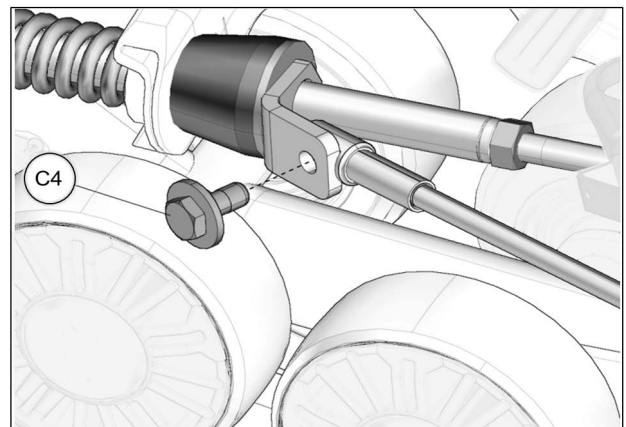

Fig. 32
22. Reverse steering wheel a little to be able to bolt support plate and cable together. Tighten provided bolt (C4) to 35 Nm [24 lb•ft]. See Fig. 32. Repeat steps on right side.